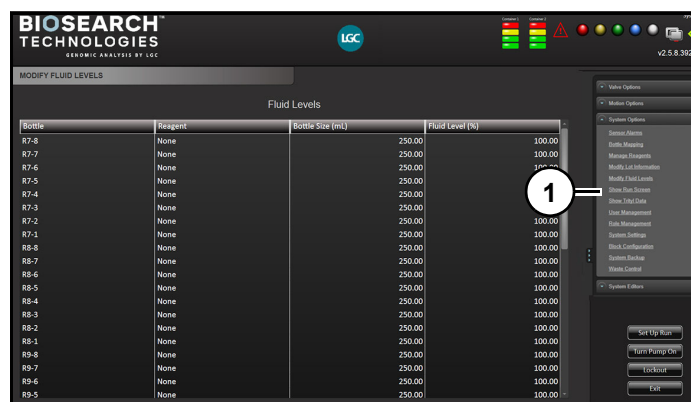

Figure 53
Modify Fluid Levels (1) (Figure 53) is used to track fluid levels of bottle positions. Bottle size can be entered, and after each run, user can manually subtract amount used in previous run. Helps keep track of chemical consumption and ensure user checks reagent levels to prevent failed runs due to insufficient chemicals.